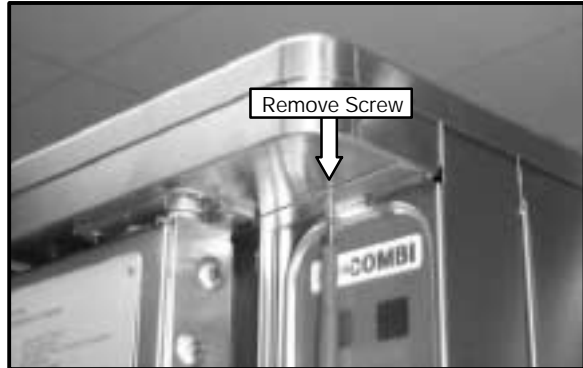

Figure 12
4. Remove the locking tab plate above the control panel by removing the Phillips screw. See Figure 12. Do this to both the upper oven and the lower oven.